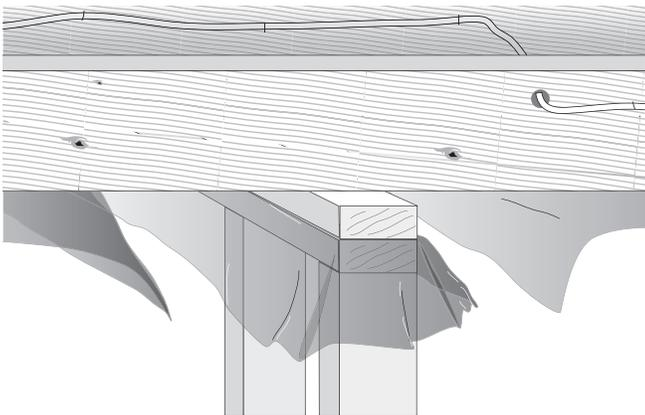

Figure 7.19: Putting a polyethelene tab between the wall top plates to be sealed to the ceiling vapor retarder later
- Place a 24-inch wide strip of 6-mil polyethylene between the partition-wall top plates (Figures 7.19 and 7.20), which is later sealed to the ceiling air barrier in each room.